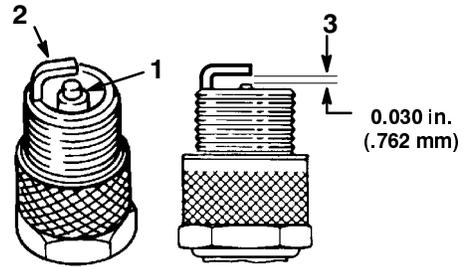

Figure 20
1. Look at the center of the spark plug(s) (Fig. 20). If you see light brown or gray on the insulator, the engine is operating properly. A black coating on the insulator usually means the air cleaner is dirty.
2. Check the gap between the center and side electrodes (Fig. 20). Bend the side electrode (Fig. 20) if the gap is not correct.